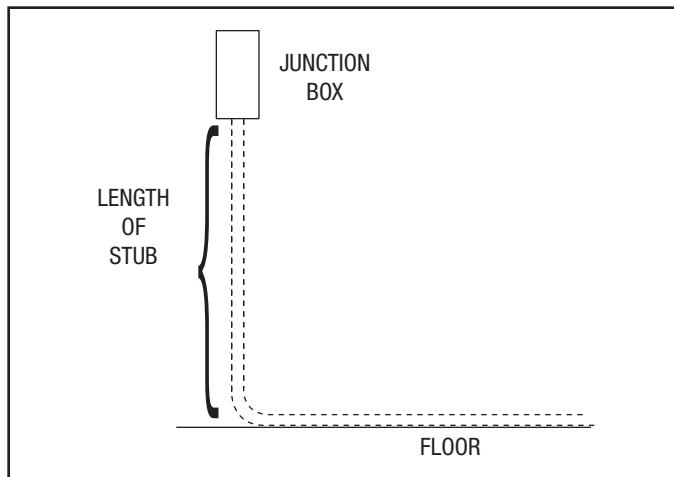

Figure 1
1. Measure the length of the required stub. Refer to Figure 1.